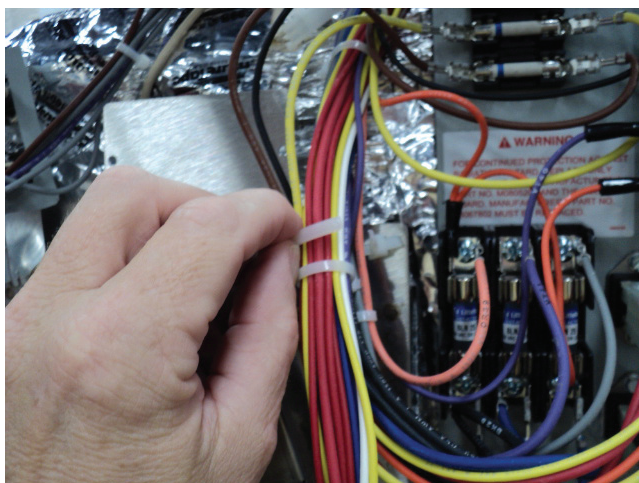

Figure 3
4. Cut wire tie holding main wire harness to corner of feed box (Figure 3).